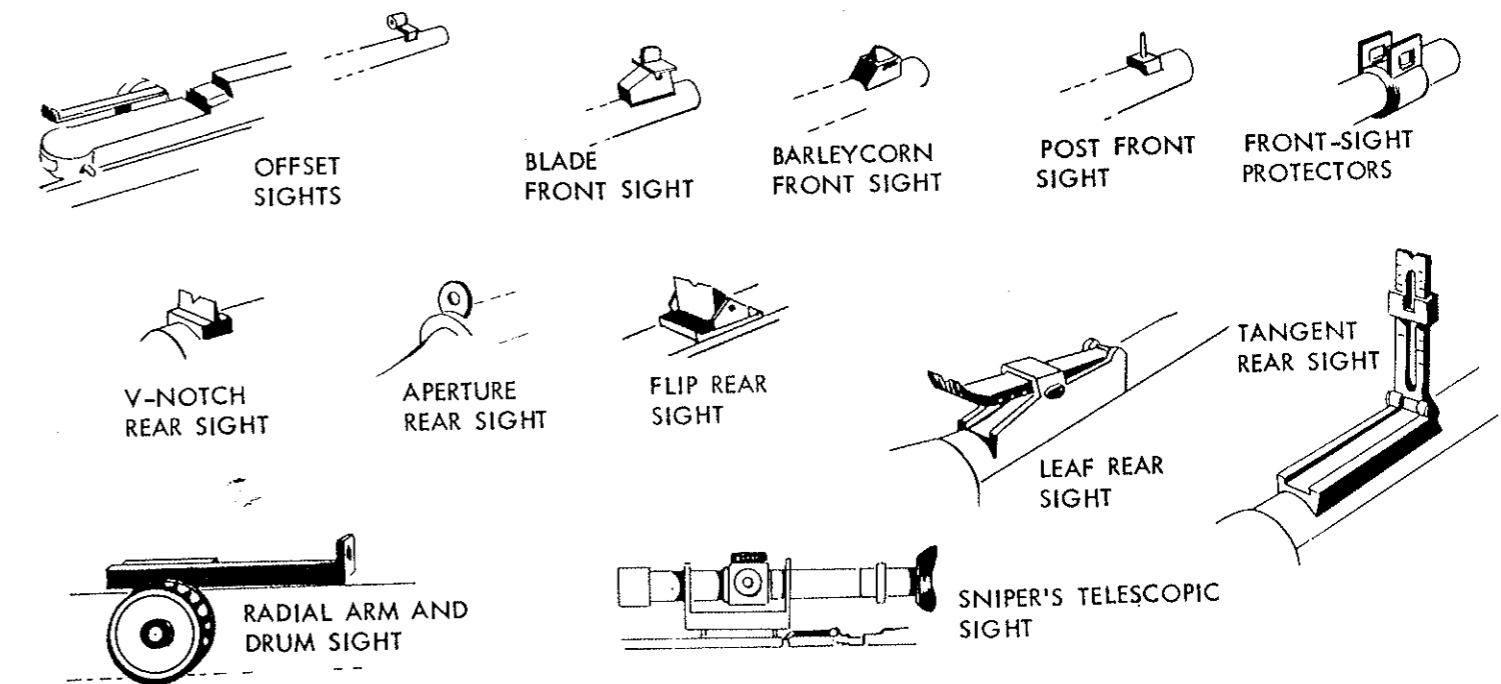

Figure 20.
a. Is the front sight one of the types shown in figure 20?
b. Is the rear sight one of the types shown in figure 20?
of the range-setting drum, and what increases do the range-scale graduations represent? A typical sniper's sight is shown in figure 20.
- a. Is the front sight one of the types shown in figure 20?
- b. Is the rear sight one of the types shown in figure 20?